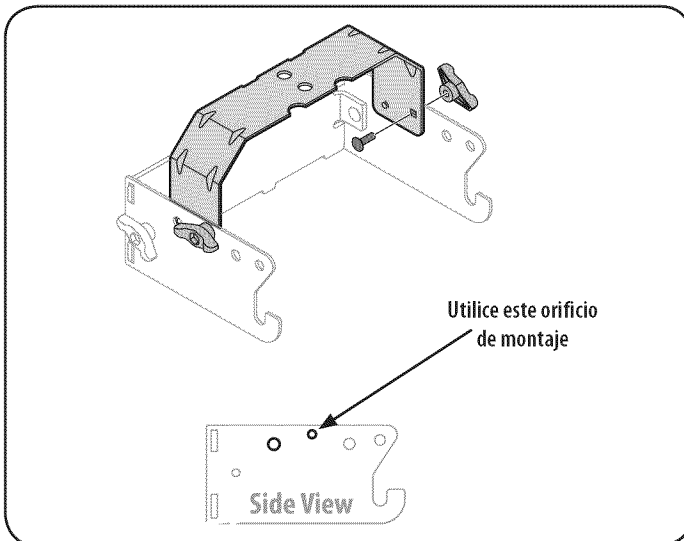

Figure 26
2. Flip over assembly and mount the hitch support bracket to the mounting assembly as shown in Figure 26.